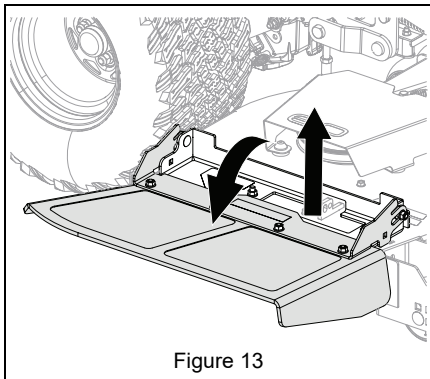

Figure 13
16. Lift discharge chute up slightly and rotate down into operating position. See Figure 13.